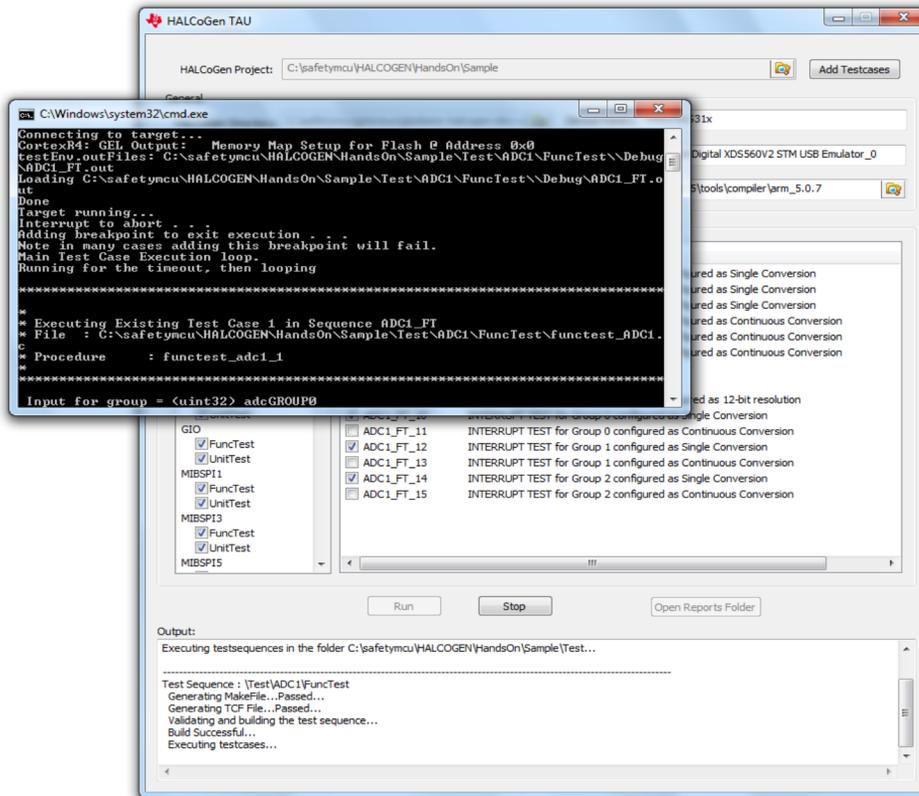

Figure 10. Test Execution
7. Test Execution (see Figure 10).